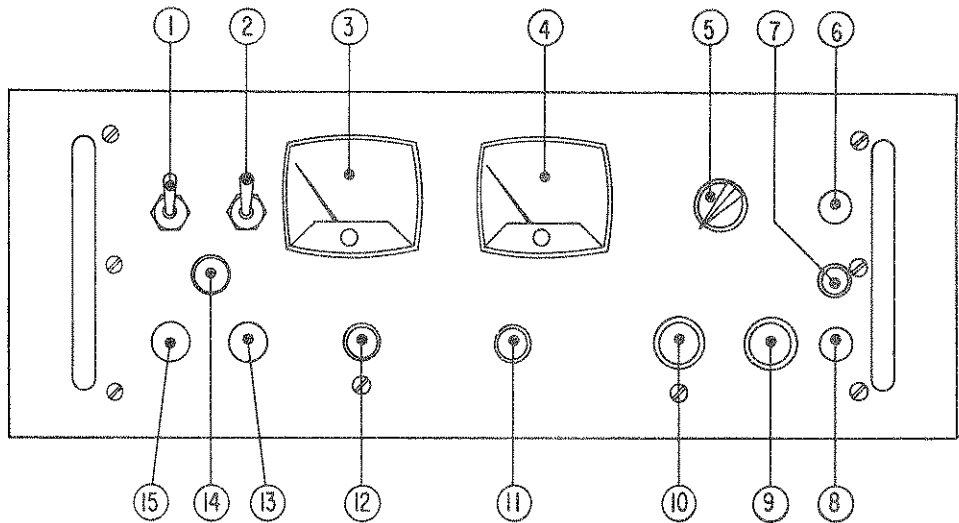
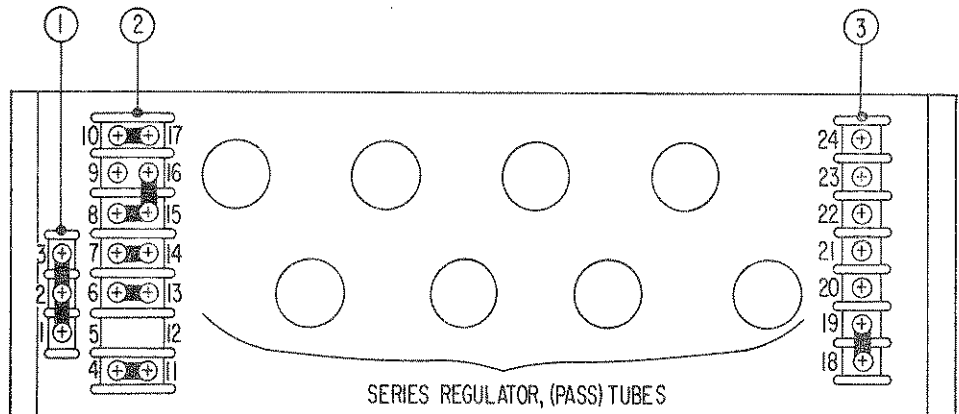

FIG. 2-2 TERMINATIONS, FRONT.
FIG. 2-3 TERMINATION, REAR.*
- 2-4 For the location of all terminations and controls, refer to FIGS. 2-2 and 2-3 as well as TABLES 2-1 and 2-2. The nomenclature used will be followed throughout this manual.
NOTE: Refer to FIG. 2-2 and FIG. 2-3 for location of front and rear terminations.